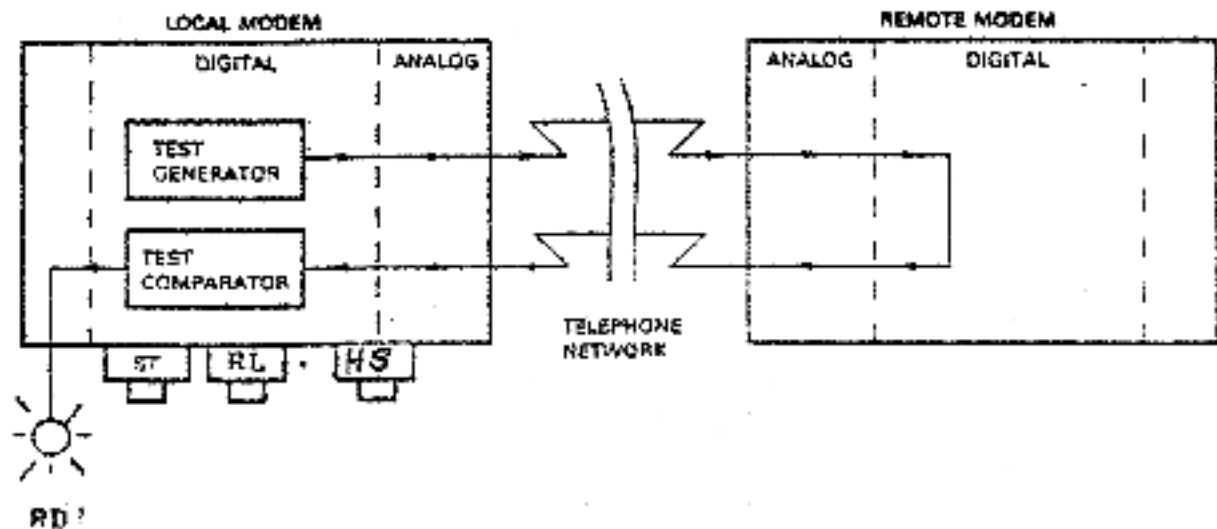

Figure 4-7 Remote Digital Loopback Selftest
**4.4.2 Remote Digital Loopback Selftest (Figure 4-7)**